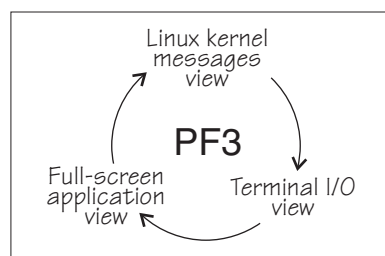

Figure 52. Switching views of the 3270 terminal device driver
The 3270 terminal device driver provides three different views. Use function key 3 (PF3) to switch between the views (see Figure 52).